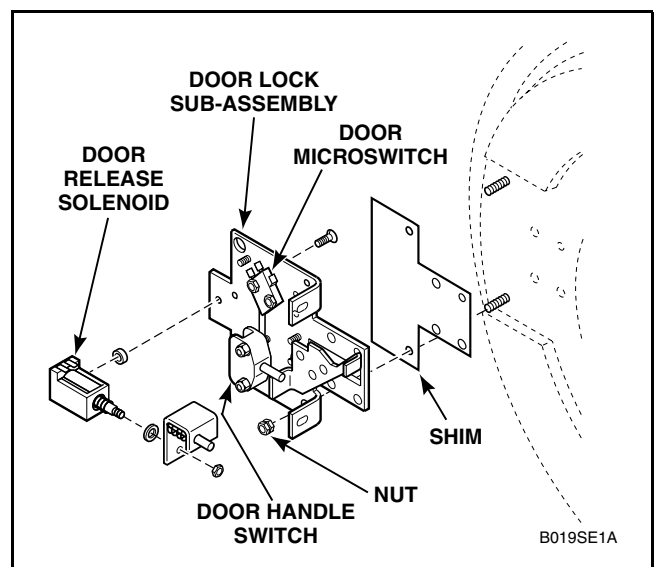

Figure 20
- d. Remove two nuts holding door lock subassembly to shell front, refer to *Figure 20*.
- d. Remove two screws holding solenoid to door lock subassembly bracket, refer to *Figure 20*.